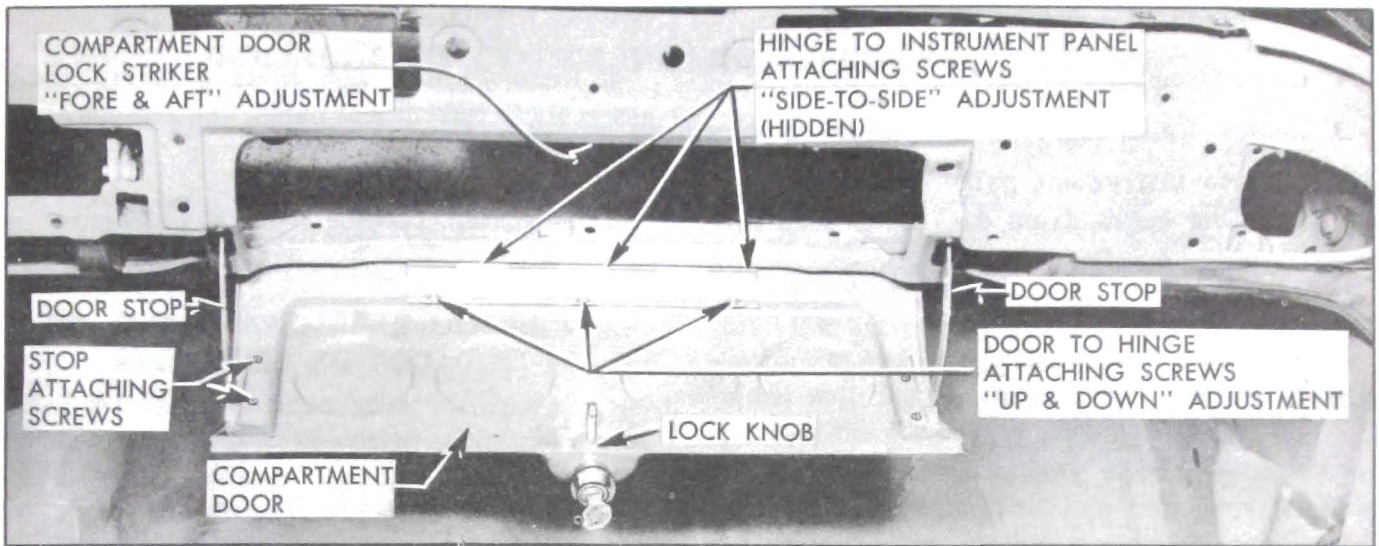

Figure 13-185—Instrument Panel Compartment Door Parts
2. Remove door stop attaching screws on each side of door and disconnect compartment door stops. See figure 13-185.
3. Remove hinge to door attaching screws and remove door. See figure 13-185.
1. The screw holes in the compartment door side of the hinge are elongated to permit "up and down" adjustment of the door. See figure 13-185.
2. The screw holes in the instrument panel side of the hinge are elongated to permit "side-to-side" adjustment of the door. See figure 13-185.
retainer attaching screw. See figure 13-185.